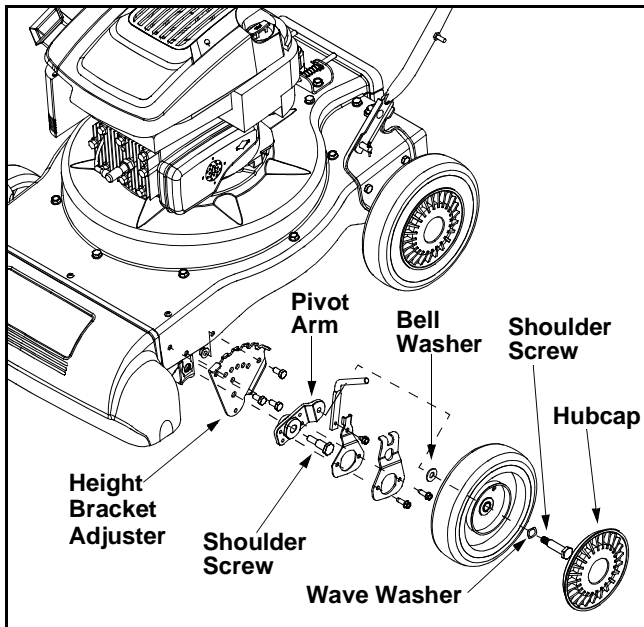

Figure 12
- Remove the front hubcaps, shoulder screws, wave washers, and bell washers that attach to the front wheels. See Figure 12.